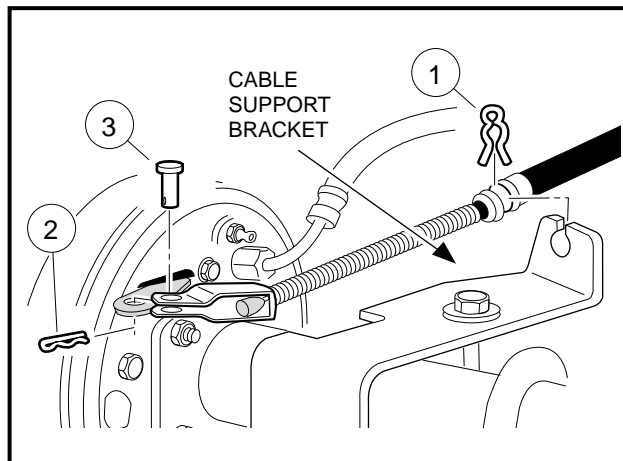
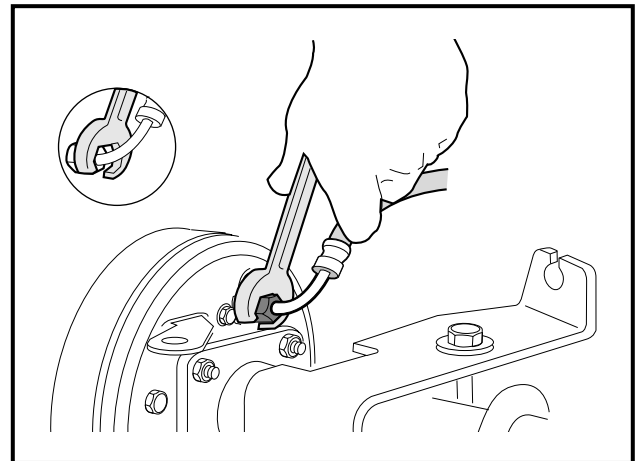

Figure 6-15 Park Brake Cable
Figure 6-16 Rear Brake Hose
3. Remove park brake cable clip (1), hair spring cotter pin (2) and clevis pin (3) (**Figure 6-15, Page 6-18**).
4. Remove the cable from the cable support bracket (**Figure 6-15, Page 6-18**) Using a 3/8 inch **flare nut wrench**, remove the brake hose from the rear brake cluster. To avoid spilling brake fluid, lift the hose above the brake cluster assembly (**Figure 6-16, Page 6-18**).
3. Install the park brake cable into the cable support bracket (**Figure 6-15, Page 6-18**).
4. Install the park brake cable clip (1), clevis pin (3) and hair spring cotter pin (2) (**Figure 6-15, Page 6-18**).